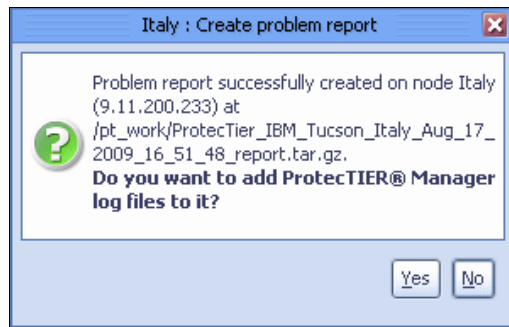

Figure 10-65 Create problem report: Add log file window
3. Click **OK**. The ProtecTIER system downloads the report files from the ProtecTIER system to the ProtecTIER Manager workstation and the Add ProtecTIER Manager log file window opens (Figure 10-65).